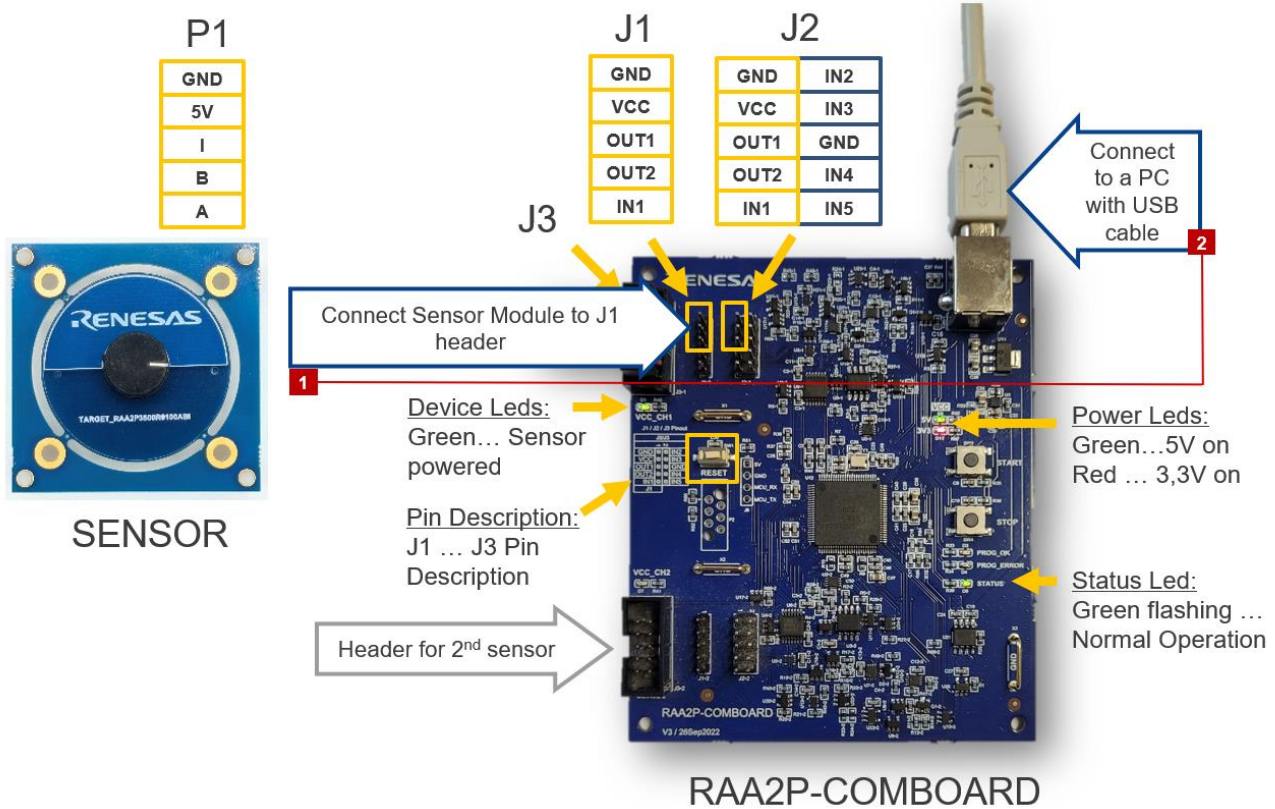

Figure 4. Evaluation Kit Connection Setup
1. Connect the sensor module P1 connector to the J1 header of the RAA2P-COMBOARD using the provided cable according to Figure 4.